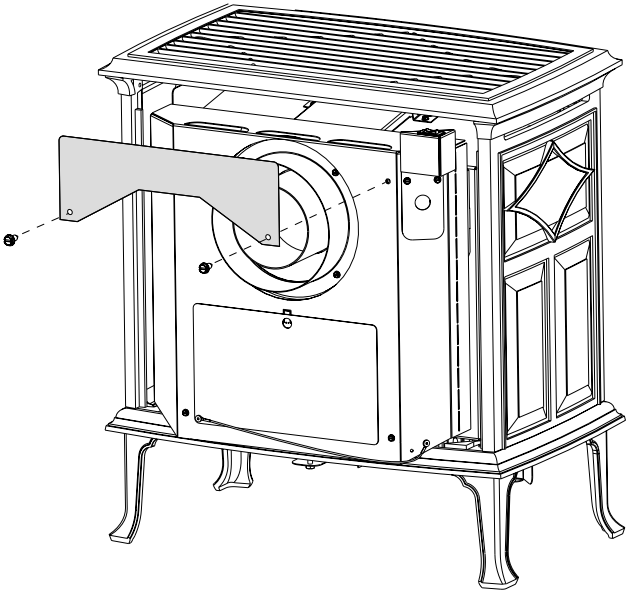

Figure 15. Wall Shield installation.
3. Secure the wall shield to the stove with the two 1/4" hex head screws. See fig. 15 .